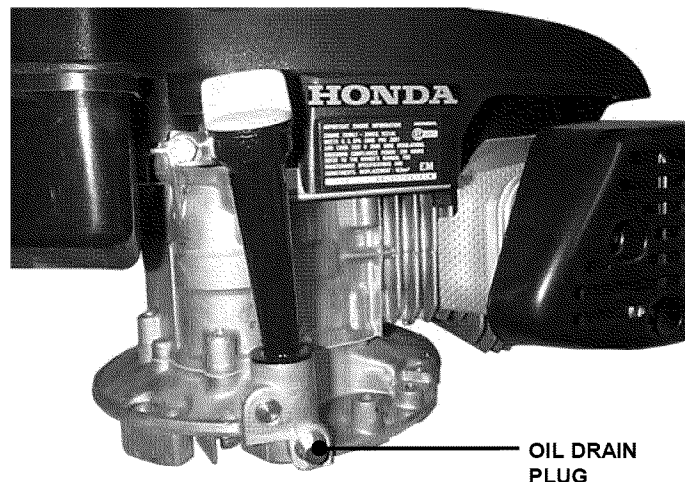

FIGURE 3.1
2. The Honda engine is equipped with an oil drain plug located above the deck on the right side of the engine. See Figure 3.1. Allow sufficient time for all oil to drain. Reinstall plug and tighten securely.